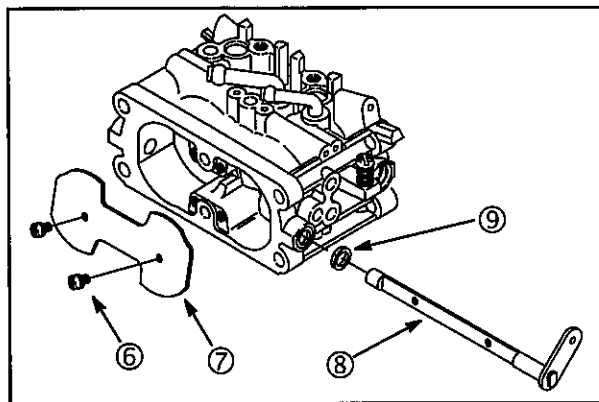

Fig. 69
3. Install new choke shaft seal (9), **Fig. 69** with sealing lip out.
4. Install choke shaft (8).
5. Install choke plate (7).